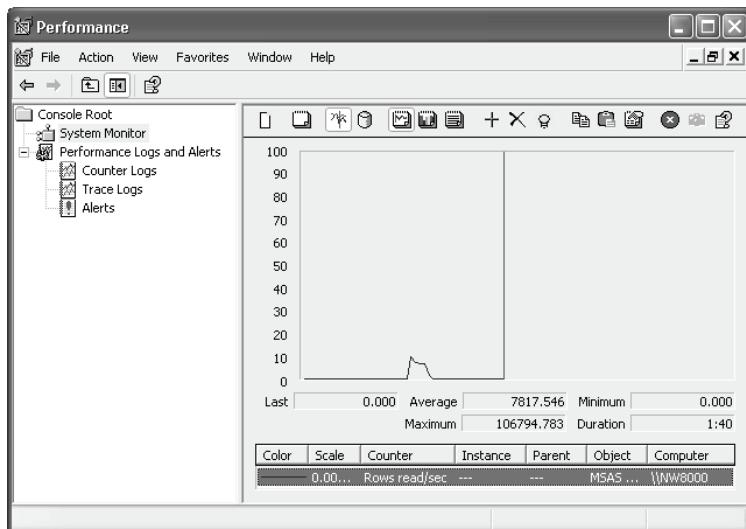

Figure 13.24 Use the Rows read/sec to monitor how fast the server processes rows from the data source.
- While the server is processing the cube, switch to the Performance console and watch the Rows/sec counter (Figure 13.24). You should see a spike as the server starts extracting and